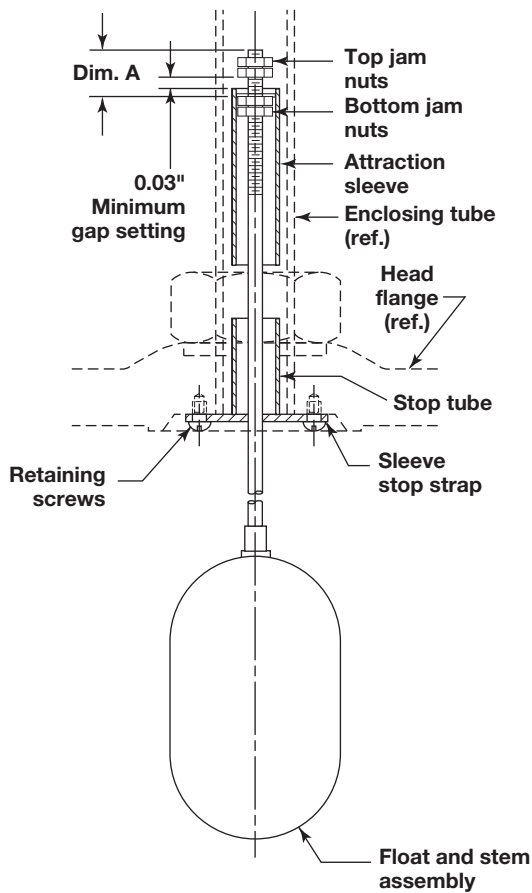

Figure 13
2. Dimension A, shown in Figure 13 must be determined by direct measurement from old assembly.